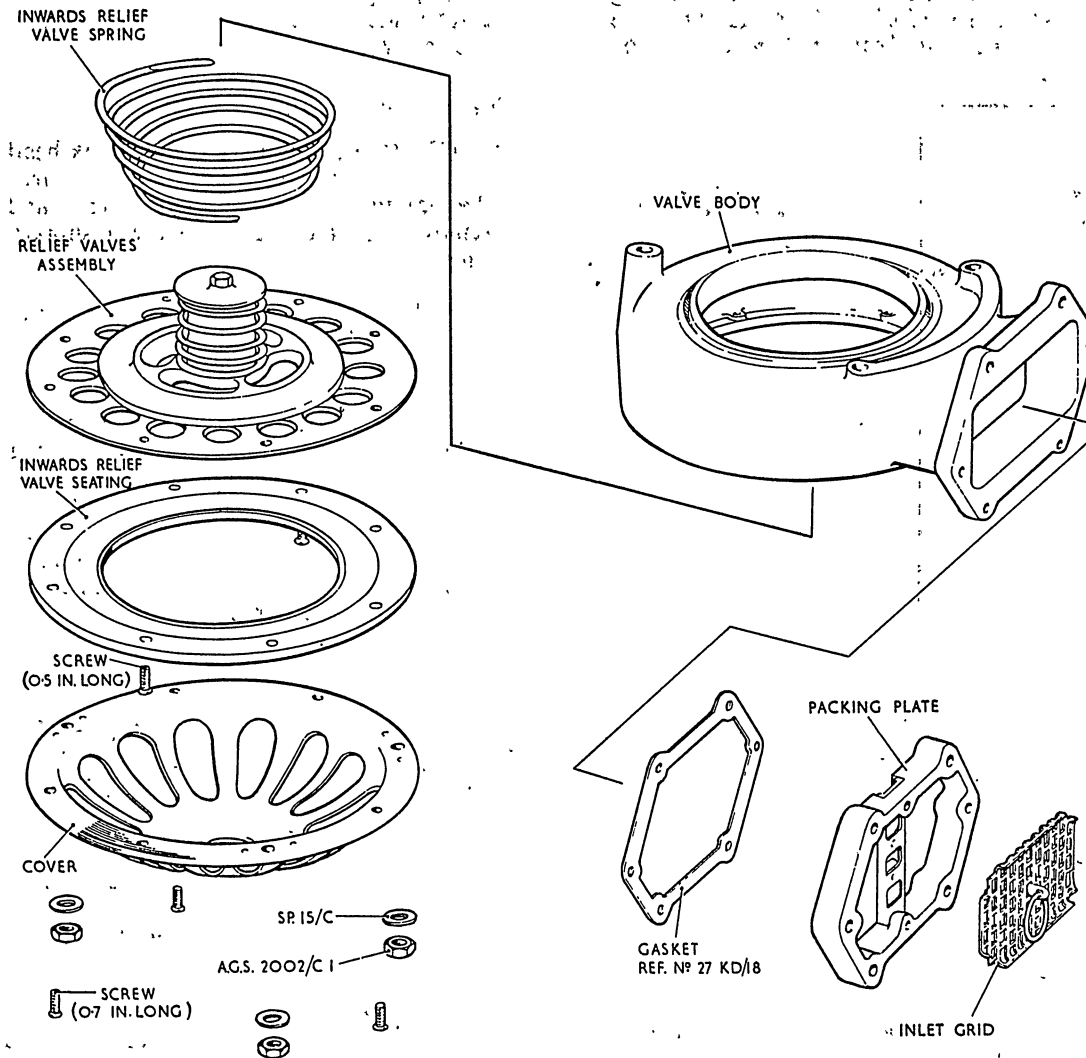

Fig. 2. Bottom chamber
5. (1) Remove the inlet grid and packing plate assembly (Mk. 12 unit only) and the gasket. Separate the grid from the packing plate (fig. 2), but do not dismantle these parts further unless damage is apparent.
Bottom chamber (fig. 2)